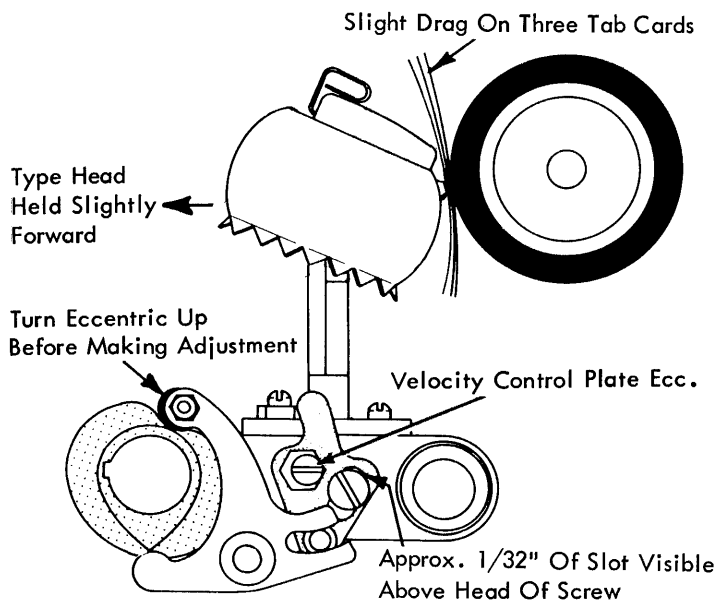

FIGURE 139. Velocity Control Plate Eccentric Adjustment
The eccentric shouldered nut (Fig. 139) on the velocity
- Hand cycle the machine using a zero rotate, zero tilt character until the print cam follower is on the high point of the cam. Do not hold the typehead toward the platen. With the mechanism in this position, adjust the velocity control plate eccentric until a slight drag is felt on three tab cards inserted between the typehead and the platen (Fig. 139). A heavy drag should be felt on four cards. No drag should be felt on two cards. You should not be able to insert five cards.